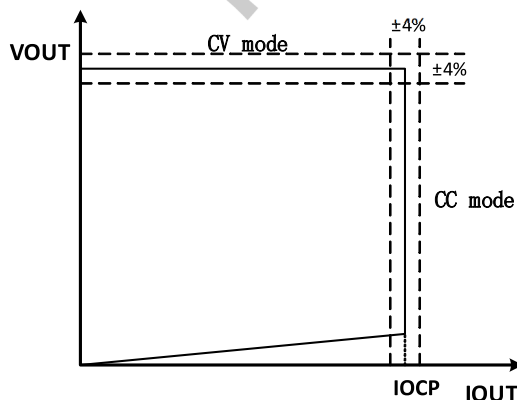

Fig.1. Typical CC/CV Curve
Proprietary Constant Voltage (CV) and Constant Current (CC) control is integrated as shown in the Fig.1. In CC control, the current and output power setting can be adjusted externally by the sense resistor R_s at CS pin. In CV control, multi-mode operations are utilized to achieve high performance and high efficiency.